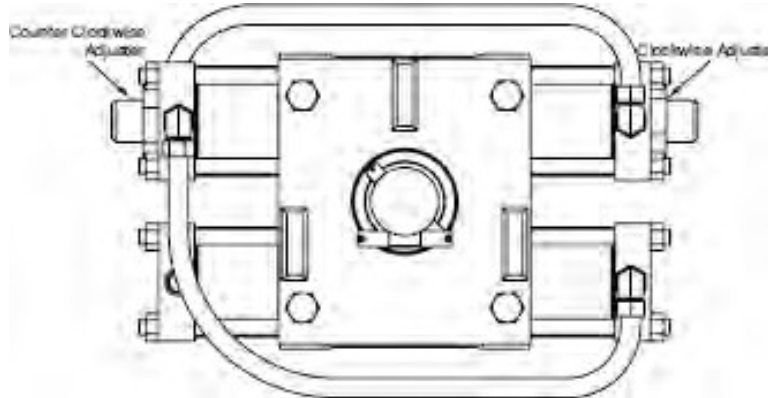

Figure 36A: Stroke Adjusters
1. Position the actuator in the desired final fail-safe position slightly beyond the calibrated stroke adjuster. This can be done when calibrating **Position Lo** and **Position Hi**. See Figure 36A for details.
3. Locate the correct stroke adjuster. See Figure 36A for details.